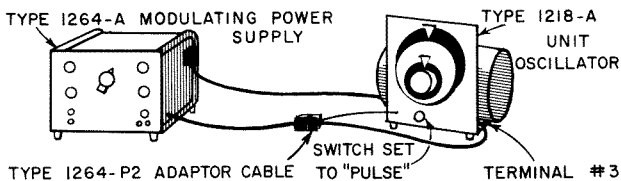

Figure 4. Connection of Type 1264-A to Type 1218-A Unit Oscillator by Means of Type 1264-P2 Adaptor Cable.
**2.4.3 CONNECTIONS TO TYPE 1218-A UNIT OSCILLATOR.** The Type 1264-A Modulating Power Supply can be connected to the Type 1218-A Unit Oscillator by means of the Type 1264-P2 Adaptor Cable as shown in Figure 4. The four-terminal connector on the cable from the oscillator is plugged into the mating receptacle on the right-hand side of the Type 1264-A. The eight-terminal connector on the adaptor cable is plugged into the mating connector on the cable from the Type 1264-A. The telephone plug on the adaptor cable is plugged into the oscillator modulation jack, and the terminal lug is attached to terminal No. 3 on the side of the oscillator. The oscillator function switch should be set to PULSE MOD for best results, although no damage will occur if it is inadvertently set to one of the other positions.